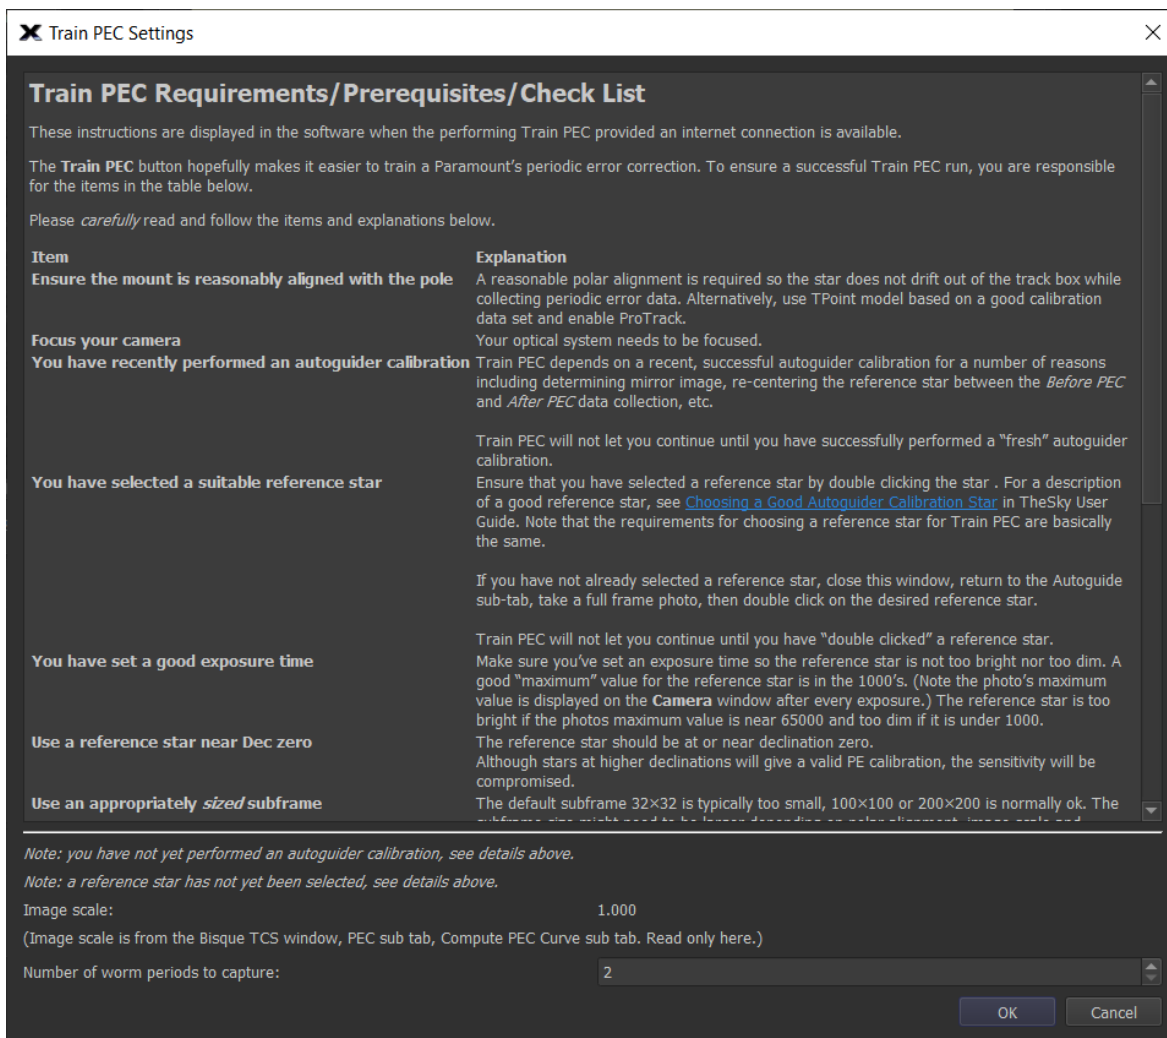

Figure 85: Follow the Train PEC Requirements instructions to proceed.
2. Carefully read and follow the instructions on the **Train PEC Requirements** window (Figure 85). There are a number of important items that must be addressed before the mount's periodic error correction can be trained, including: